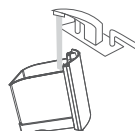

Figure 18
3.1.5 Rinse the ice bucket thoroughly with a faucet, dry it, and put it back (see Figure 18).